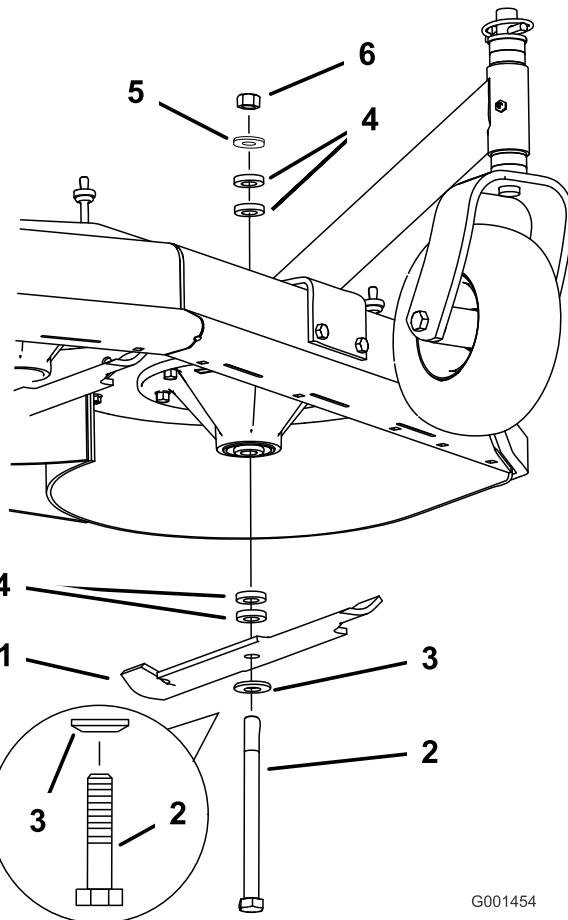

Figure 50
2. Remove the nut, blade bolt, curved washer, blade, spacers, and thin washer from the spindle (Figure 50).
1. Place the blade onto the bolt and over the curved washer. Select the proper number of spacer(s) for the height-of-cut, and slide the bolt into the spindle (Figure 50).